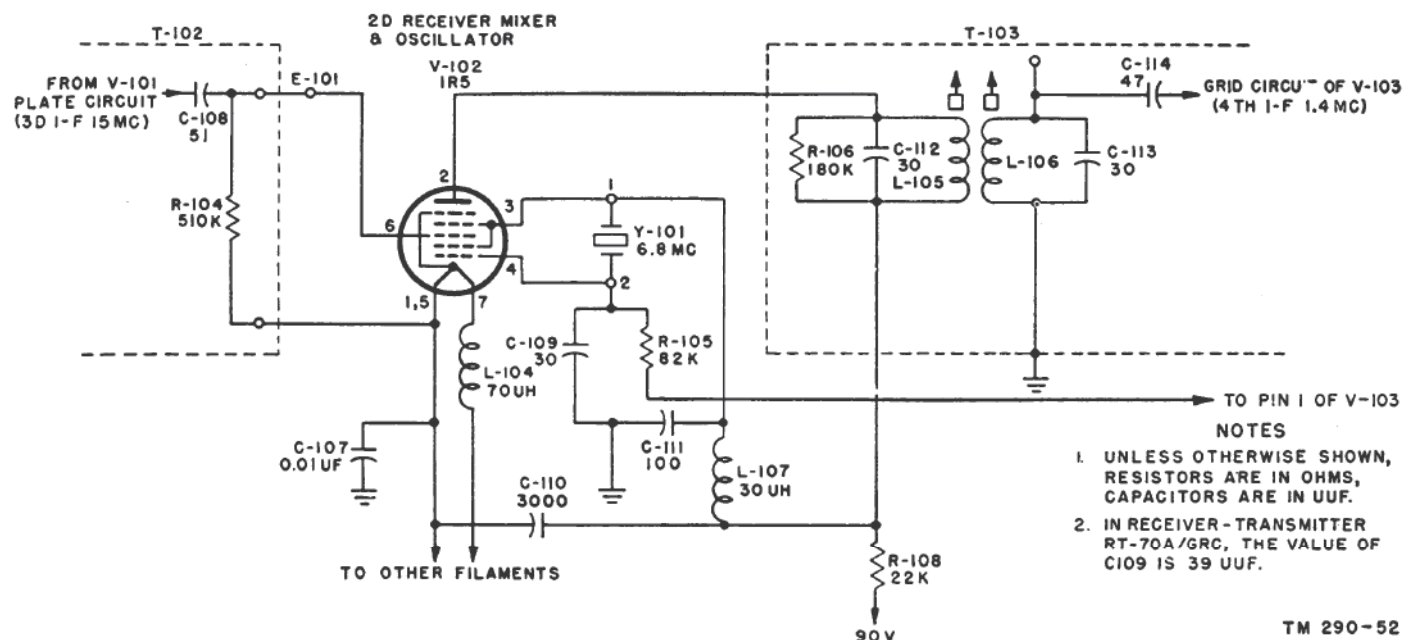

Figure 21. Receiver second mixer and oscillator, functional diagram.
30. Receiver Second Mixer and Oscillator (fig. 21)